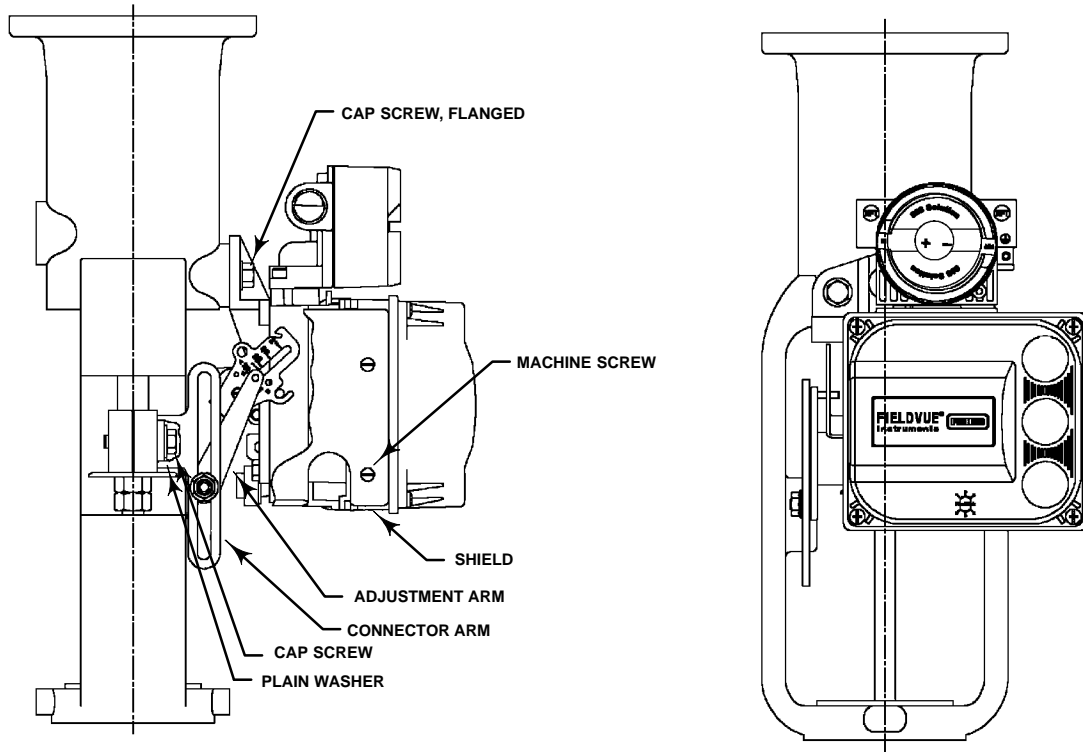
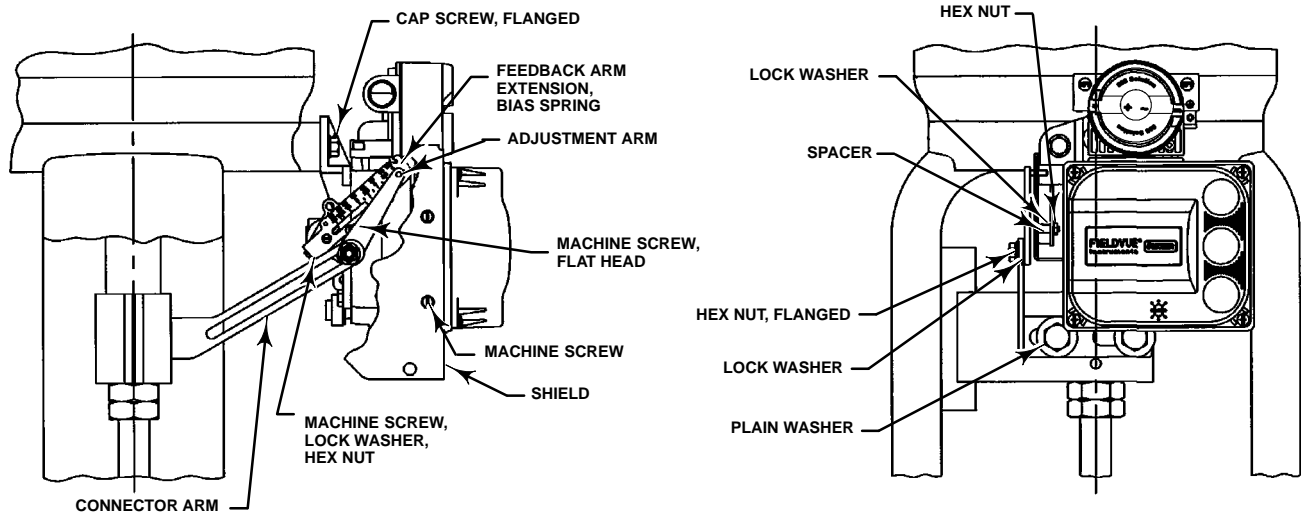

Figure 2-1. FIELDVUE DVC6010 SIS Digital Valve Controller Mounted on Sliding-Stem Actuators with up to 2 Inches Travel
Figure 2-2. FIELDVUE DVC6010 SIS Digital Valve Controller Mounted on Sliding-Stem Actuators with 2 to 4 Inches Travel
The DVC6010 SIS digital valve controller mounts on sliding-stem actuators with up to 102 mm (4 inch) travel. Figure 2-1 shows a typical mounting on an actuator with up to 51 mm (2 inch) travel. Figure 2-2 shows a typical mounting on actuators with 51 to 102 mm (2 to 4 inch) travel. For actuators with greater than 102 mm (4-inch) travel, see the guidelines for mounting a DVC6020 SIS digital valve controller.
4. If valve travel exceeds 2 inches, a feedback arm extension is attached to the existing 2-inch feedback arm. Remove the existing bias spring (key 78) from the 2-inch feedback arm (key 79). Attach the feedback arm extension to the feedback arm (key 79) as shown in figure 2-2.
6. Set the position of the feedback arm (key 79) on the digital valve controller to the no air position by inserting the alignment pin (key 46) through the hole on the feedback arm as follows:
The DVC6015 remote feedback unit mounts on sliding-stem actuators with up to 102 mm (4-inch) travel. Figure 2-1 shows a typical mounting on an actuator with up to 51 mm (2 inch) travel. Figure 2-2 shows a typical mounting on actuators with 51 to 102 mm (2 to 4 inch) travel. For actuators with greater than 102 mm (4 inch) travel, see the guidelines for mounting a DVC6025 remote feedback unit.